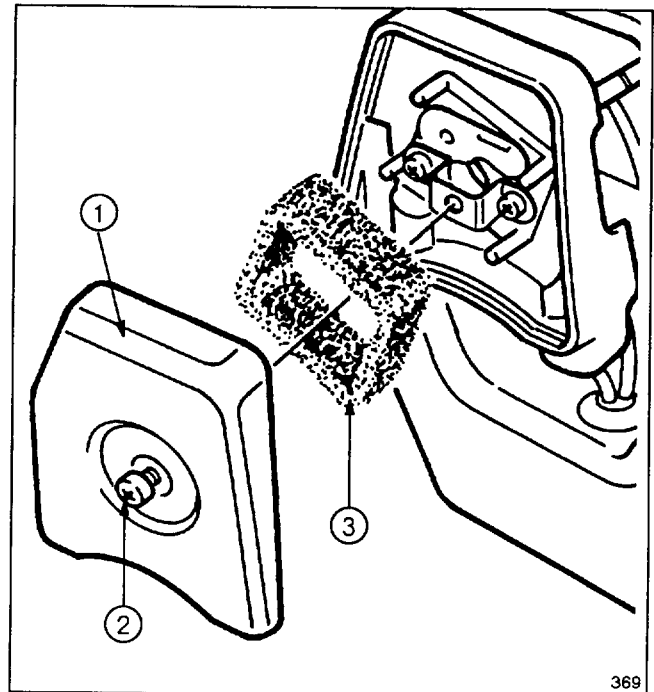

Figure 19
## SERVICING AIR CLEANER (Fig. 19)
5. Reinstall air cleaner components as shown in Figure 19.